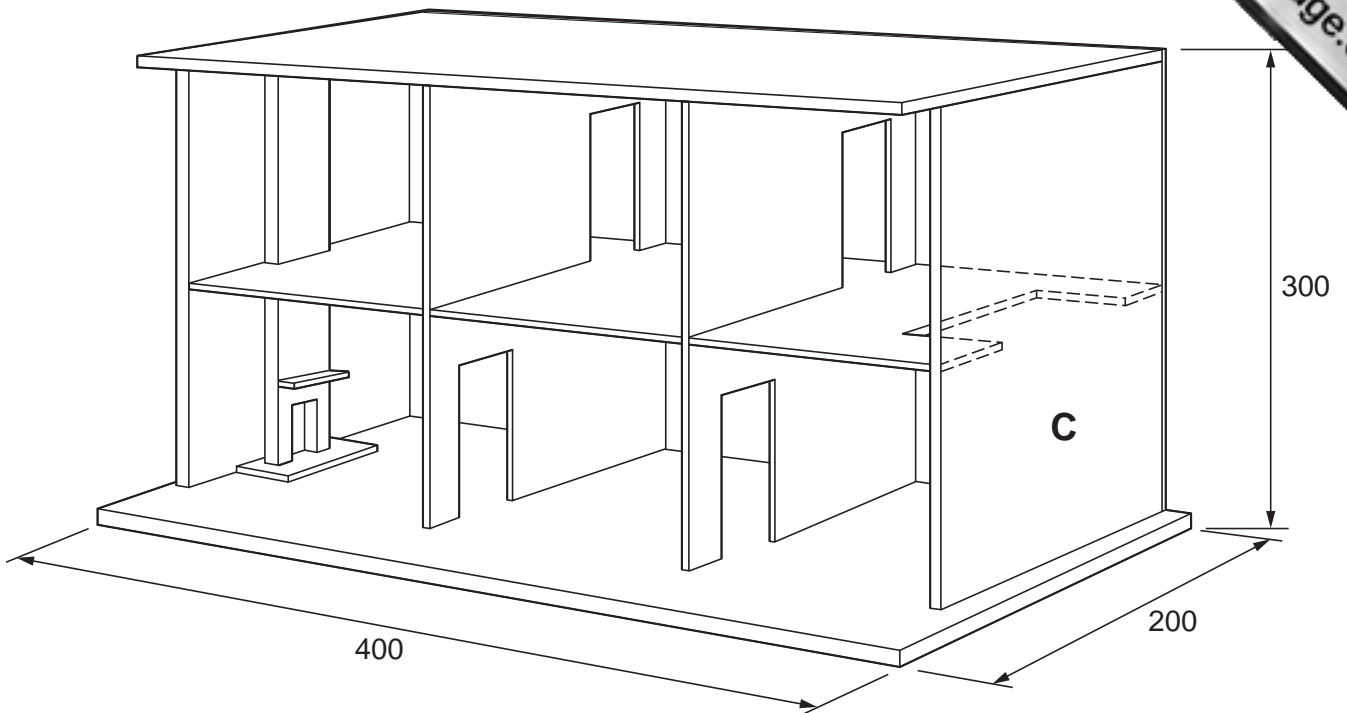

Fig. 9
- 8 Fig. 9 shows the main structure of an architectural model of a house. Most of the materials are made from card.